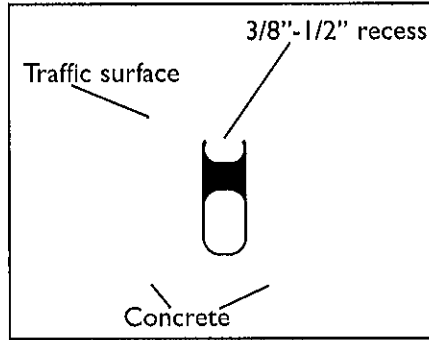

Figure 1
**Application:** Ideal surface temperature should be 60°F(16°C) - 85°F(29°C). Sealant should be applied to the prepared joint in a continuous operation. Tool the sealant slightly concave using dry-tooling techniques. **Sealant must be recessed 3/8"-1/2" below traffic surface.** (See Figure 1).